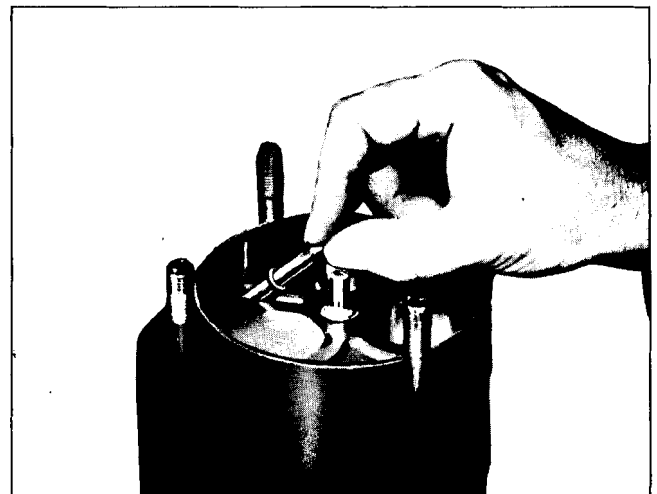

Fig. 1A-99 Installing Oil Intake (Pick-Up) Tube
10. Place an O-ring on the oil pick-up tube, apply oil to cavity and O-ring. Insert tube and O-ring (Fig. 1A-99), rotating compressor mechanism as necessary and align tube with hole in the shell baffle. Be sure O-ring and intake tube are properly seated.